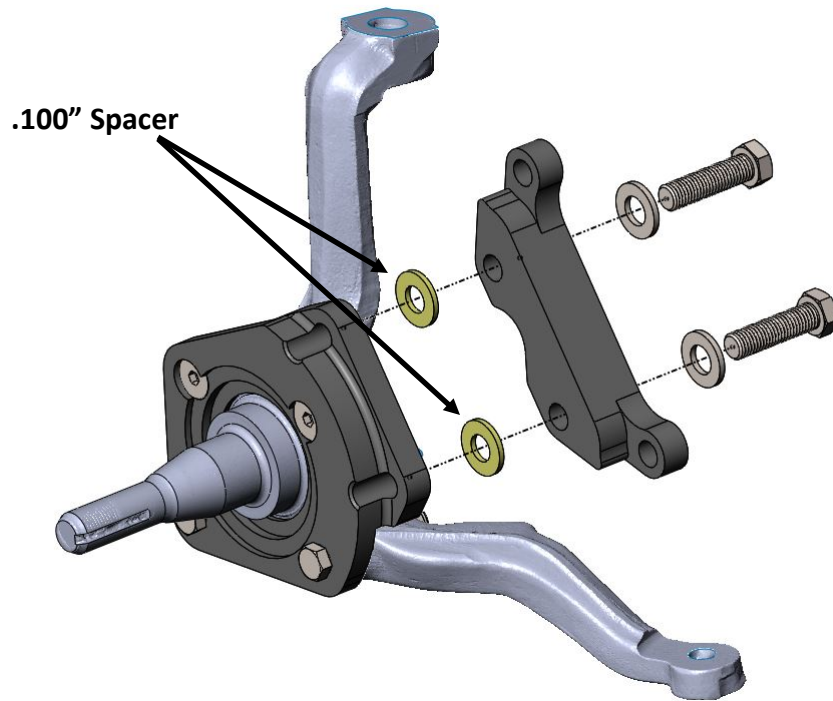

Figure 3 – Intermediate Caliper Mounting Bracket Installation (Driver Side Shown)
6. Install the intermediate caliper mounting bracket using the supplied M12-1.75 X 45mm Hex Head Bolts and Flat Washers along with the .100” thick spacer that is included in the shim package. **NOTE:** Position the intermediate bracket to the base bracket with the step in the bracket facing outboard. Like the primary brackets, the intermediates part numbers are driver (p/n: 6610165) and passenger (p/n: 6620165) specific. See Figure 3 on the next page for reference. It is not necessary to torque at this point as these bolts may be removed at a later step when centering the caliper.